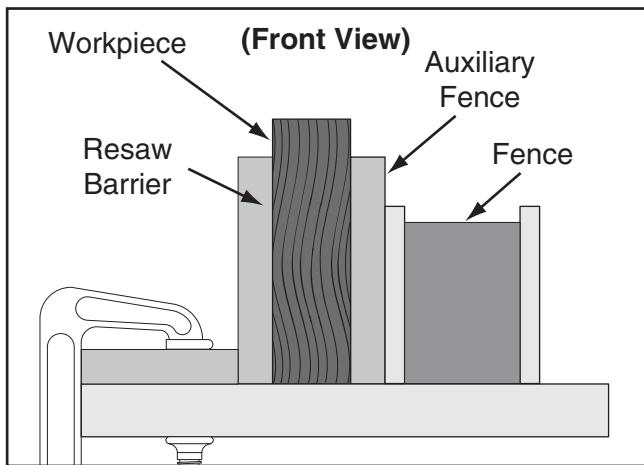

Figure 77. Ideal resaw workpiece setup.
5. Place the workpiece against the auxiliary fence and slide the resaw barrier against the workpiece, as shown in **Figure 77**. Now clamp the resaw barrier to the top of the table saw at both ends.